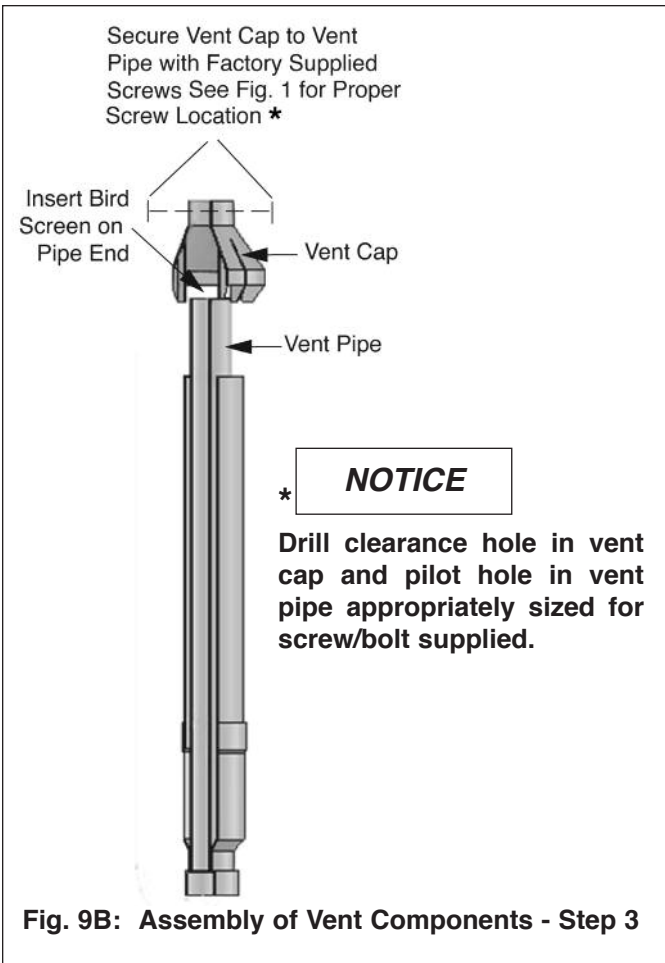

Fig. 9B: Assembly of Vent Components - Step 3
3. Begin partial assembly of the termination components in the sequence as shown in Fig. 9 thru Fig. 9B.
6. Secure vent cap to vent pipe with factory supplied screws, see figure 9B.